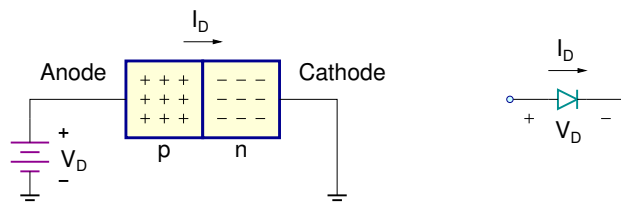
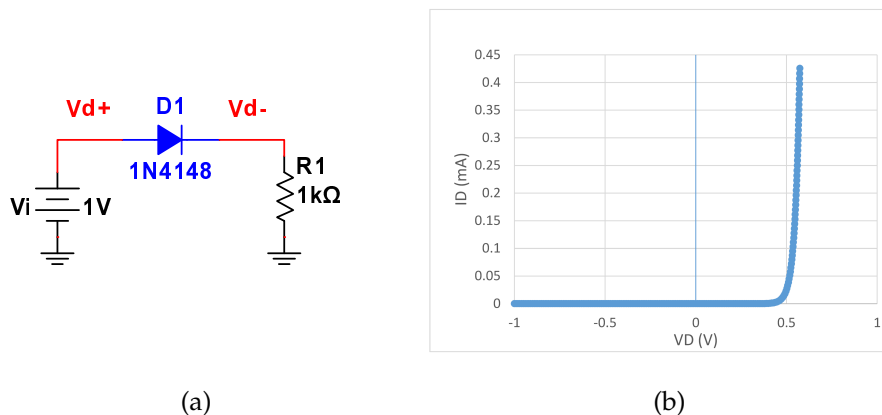

Figure 1: Semiconductor Diode
Figure 2: (a) Diode Test Circuit for I-V Characteristic (b) Resulting $I_D - V_D$ plot
The diode allows current to flow in one direction only, similar to a one-way water valve. A semiconductor diode consists of a junction formed by contact between p-type and n-type semiconductor material. The terminal connected to the p-type material is called the anode, and the terminal connected to the n-type is called the cathode, as in Fig. 1. On most diodes, the cathode is marked by a band on the body of the device.
where I_D and V_D are the current through the diode and voltage drop across the diode, respectively, as shown in Fig. 1, $V_T = kT/q$ is the thermal voltage, which is around 25 mV at room temperature, I_S is the saturation diffusion current, which is a constant dependent on the diode's geometry and material, and n is a device constant between 1 and 2. To examine the I-V characteristics of a diode, a test circuit as shown in Fig. 2(a) can be used. Measuring the voltage drop V_D across the diode and the current through the resistor R for different values of V_i results in the exponential I-V characteristics shown in Fig. 2(b).
1. Draw the schematics for the diode characterization circuit in Fig. 2(a) and perform a **DC sweep** of V_i from -1V to 1V. Export the simulation data to Excel, and plot I_D as a function of V_D .
1. Build the diode characterization circuit in Fig. 2(a) and apply a ramp signal from -1V to 1V at 1Hz as the input (V_i). Export the voltage measurements from the **scope** to Excel, and plot I_D as a function of V_D .
3. For the diode characterization circuit in Fig. 2(a):